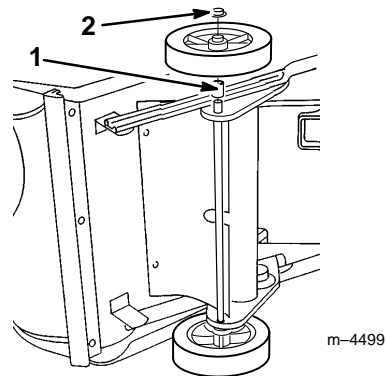

Figure 3
1. Turn the snowthrower onto its left side and place a wood block under the left axle end (Fig. 3).
2. Slide the **short** spacer and a wheel onto the right axle end (Fig. 3).
3. Slide a pushnut onto the end of the axle (Fig. 3).